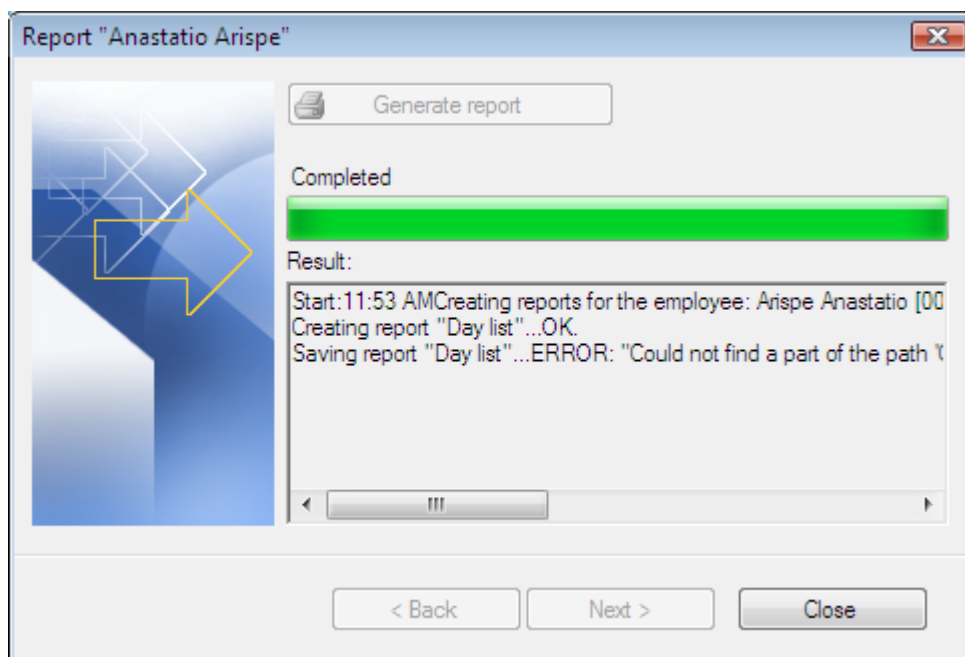

Figure 26. Report generation progress window
Step 4. Displaying a progress window for the process of generating reports (Figure 26). After generation, the summary message is displayed.